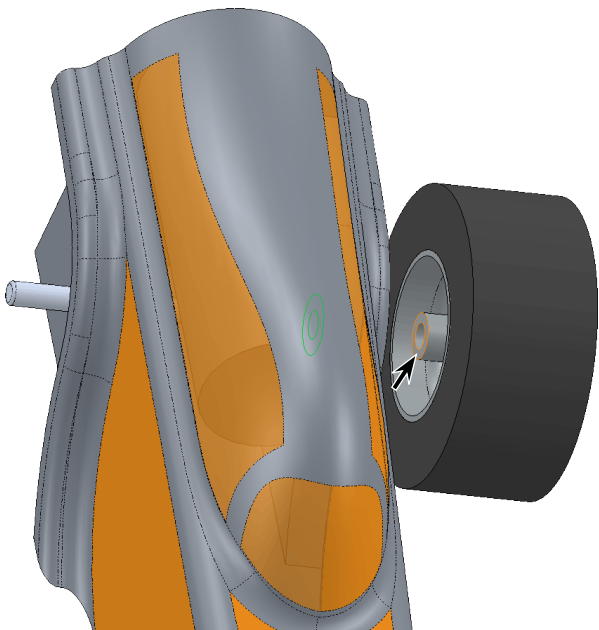

Fig. 15
Step 4. Use **Right arrow** key to rotate assembly to view inside face of Rear Rim, **Fig. 15**.
Step 5. Click **inside face of Rear Rim, Fig. 15**.